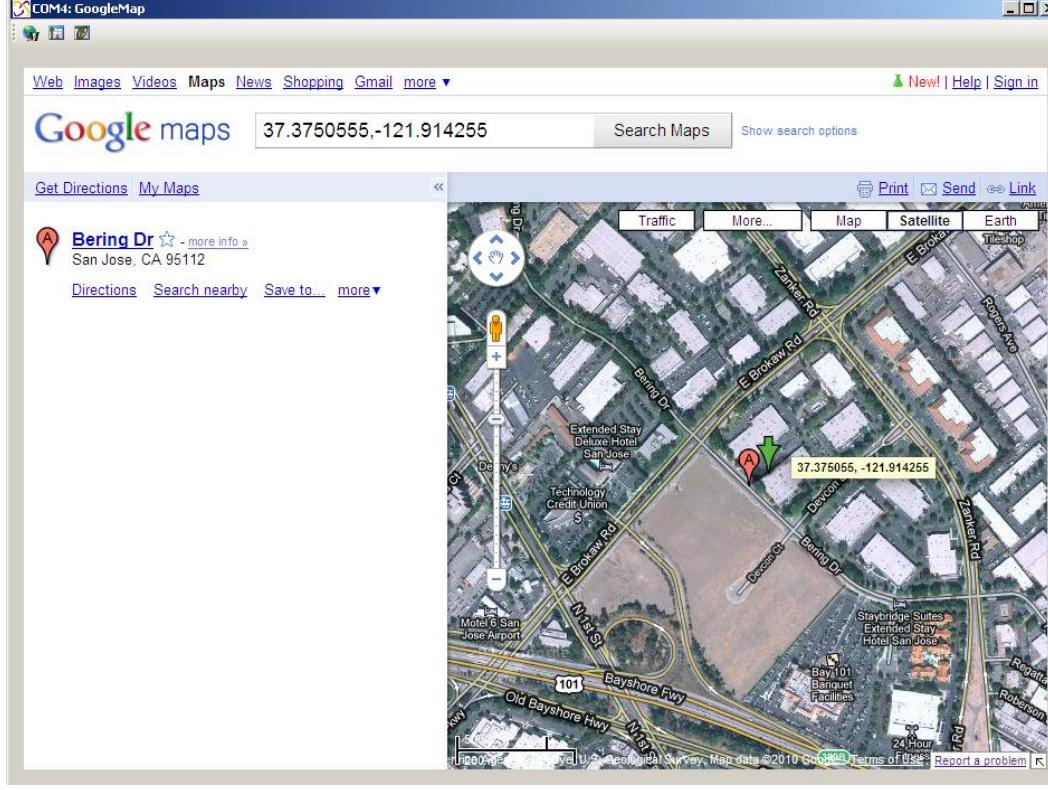

Figure 5.28: Map Position
3. Move the pointer over the green arrow to display coordinates on the map, the same as those in the text box, see Figure 5.28.